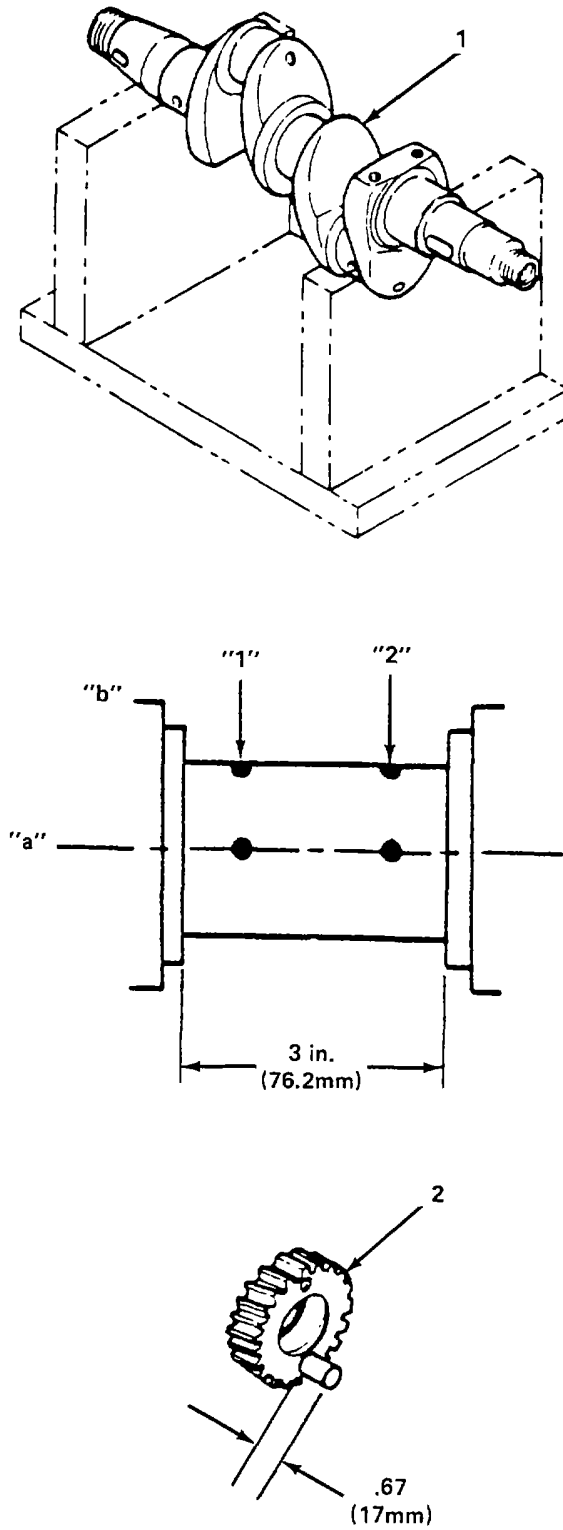

Figure 6-23. Crankshaft, Inspections.
- (i) Remove two sets of stop rings (20). Ensure that main bearings (21) do not get damaged and mark them (main bearing) on the back.
- (j) Remove crankshaft (6) from the flywheel end of the engine.
- (2) Inspect. (figure 6-23)